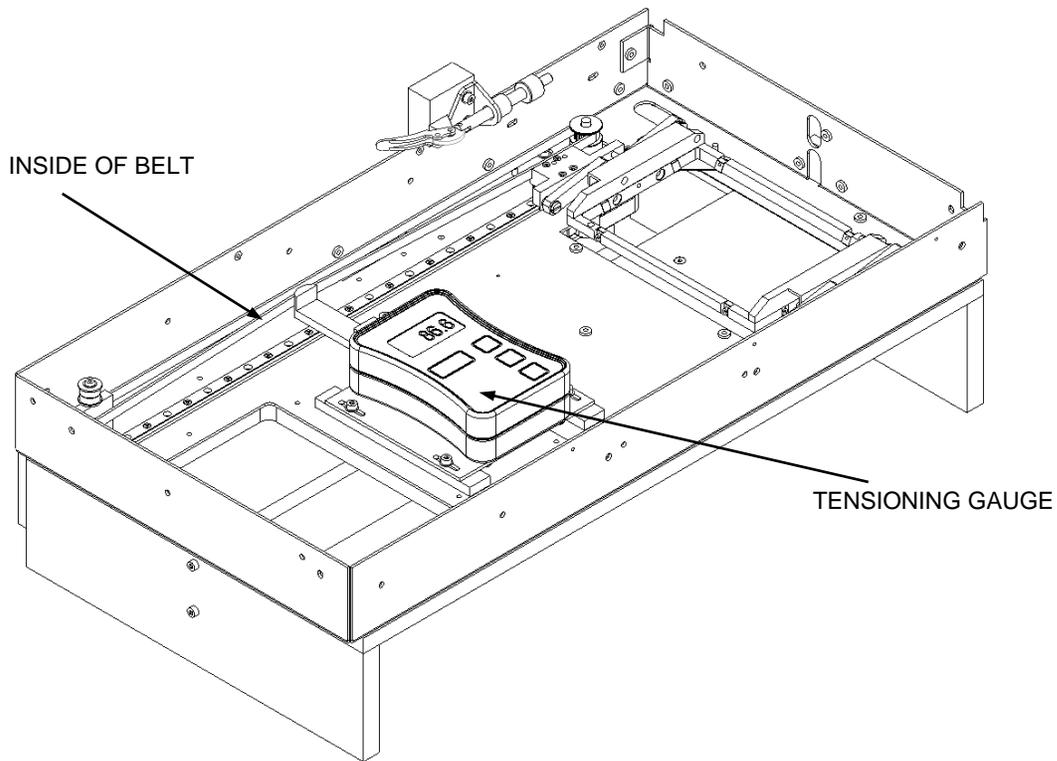

Figure 12-58: Location of Tensioning Gauge
5. Turn on the Lower Force Gauge (Part of DS2FIX010) and re-zero it. Then fit it in to the Reader Chassis by inserting the dowels underneath the Gauge into the corresponding holes in the Belt Tensioning Fixture. The Gauge end piece will push against the inside of the Belt (Figure 12-58).